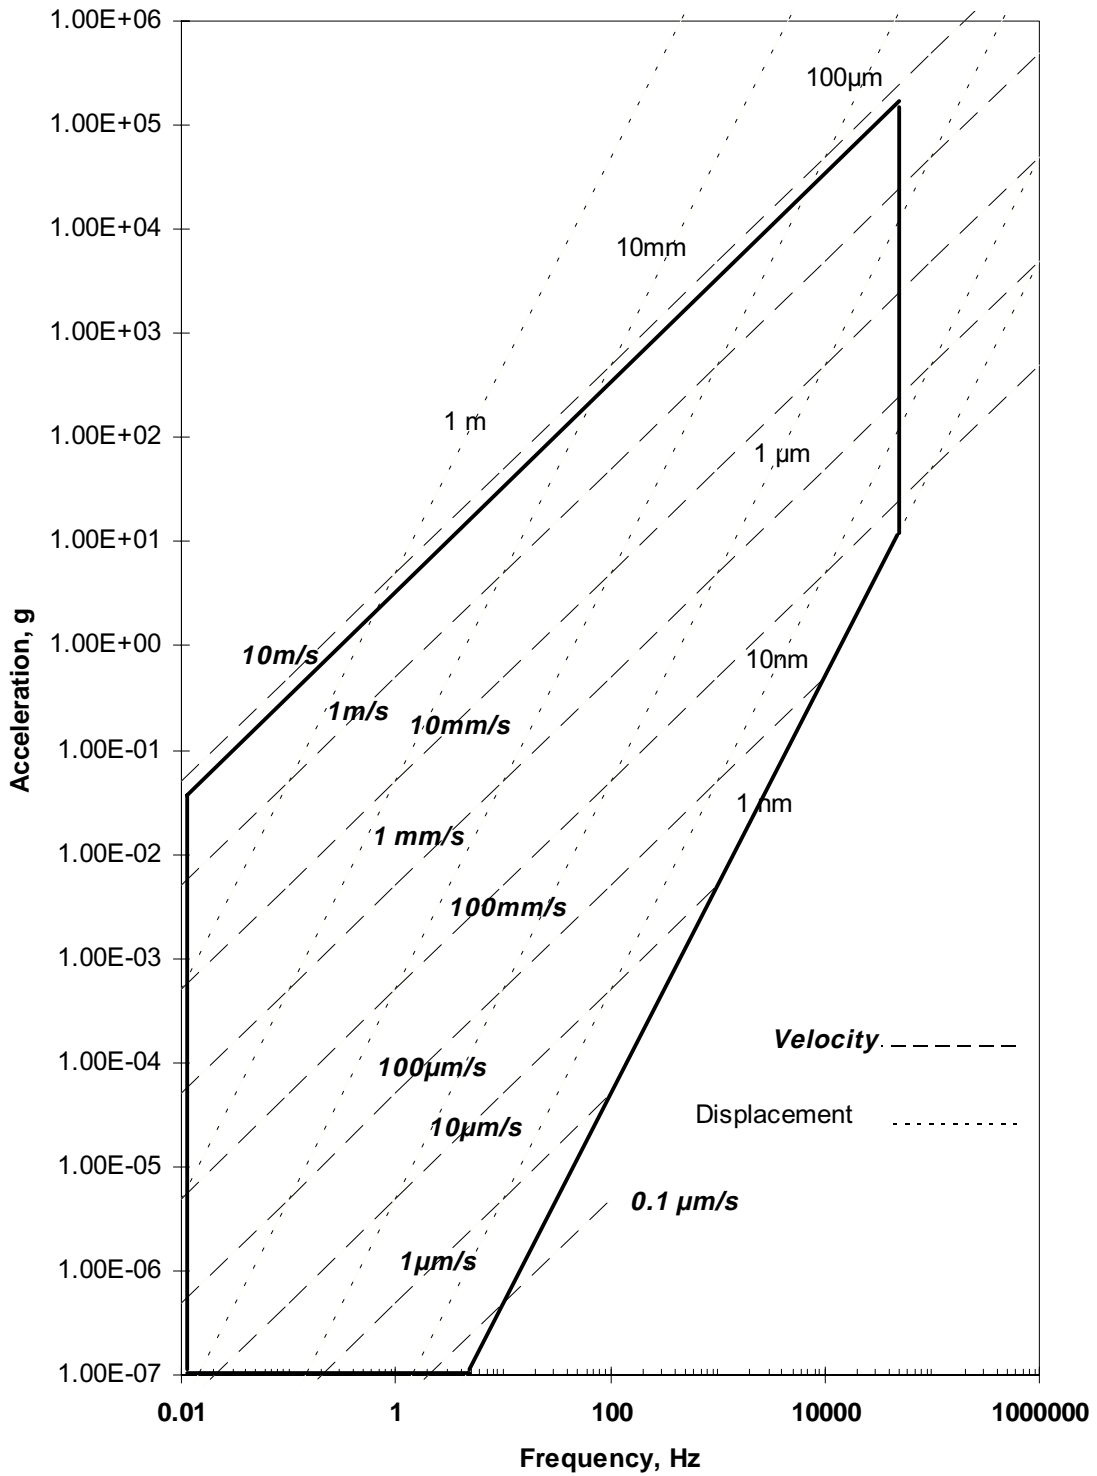

Fig. 11-1 Range Nomograph
Sampling Rate:	6.25 kHz to 800 kHz (see Fig. 11-1 , Range Nomograph)
4. Check the range nomograph (Fig. 11-1) and make sure the measurement is within the range.